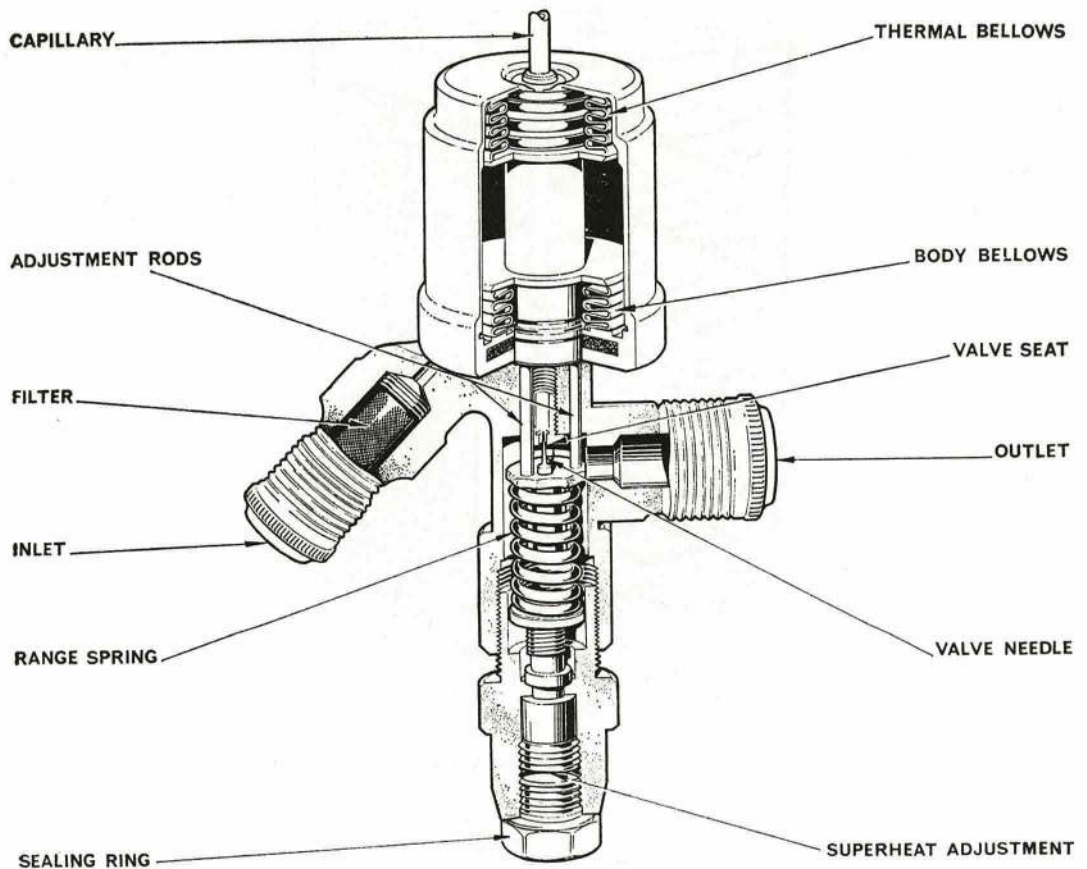

Fig. 9. EXPANSION VALVE
20. The expansion valve (Fig. 9) is also known as the **thermostatic regulator** and is fitted in the system between the liquid filter and the evaporator. Its purpose is to maintain a constant temperature difference between the refrigerant gas leaving the evaporator and the liquid refrigerant boiling in the evaporator. This temperature difference is termed the **superheat** of the gas. The valve therefore permits the whole of the cooling unit to be used at its maximum efficiency under all conditions of thermal load.
21. The valve of the type shown in Fig. 9 is actuated by two bellows elements. The first is subjected to the pressure existing at the entrance to the evaporator and, in conjunction with a spring, it tends to close the valve when the pressure rises. The second element is connected by a capillary tube to a phial which is charged with the same refrigerant as that used in the system. The phial is attached to the suction line at a position on the outlet of the cooling unit coils.